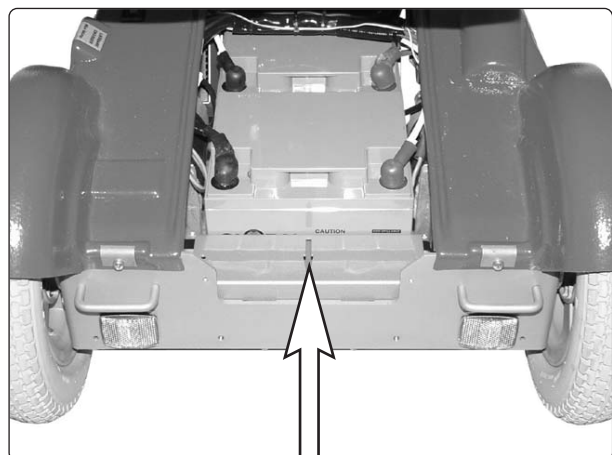

Fig. 13. Remove the spacer plate from the battery compartment by pulling it straight upwards.
7. Remove the spacer plate at the front of the battery compartment by pulling it straight upwards, see fig. 13.